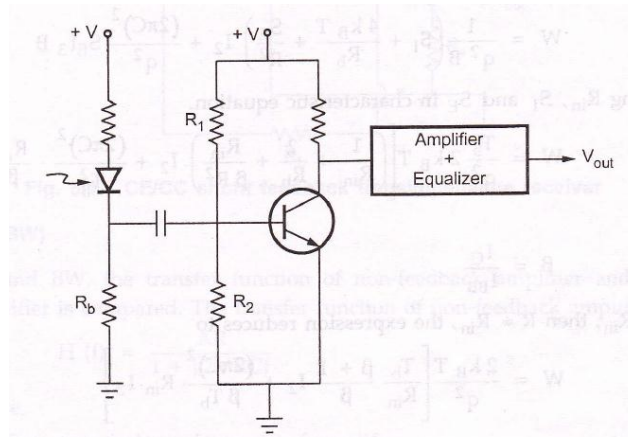

Fig. 5.1.6 High input impedance preamplifier using BJT
- High input impedance preamplifier using BJT is shown in Fig. 5.1.6.